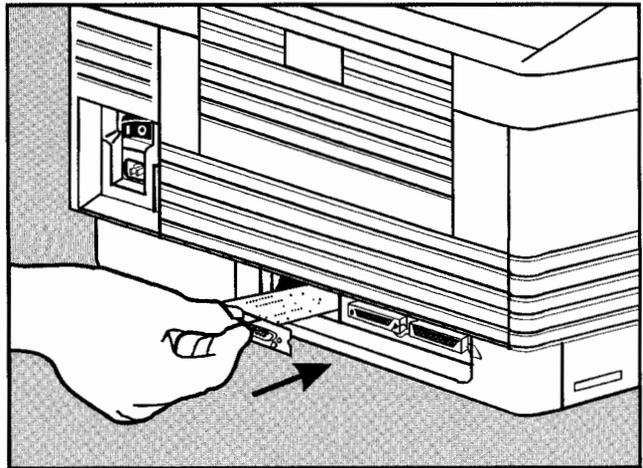

Figure 3-21. Inserting the Token Ring Adapter Card
8. Hold the adapter card by its handle and position the card so that the STATUS button is on the left when looking at the back of the printer. See Figure 3-21.